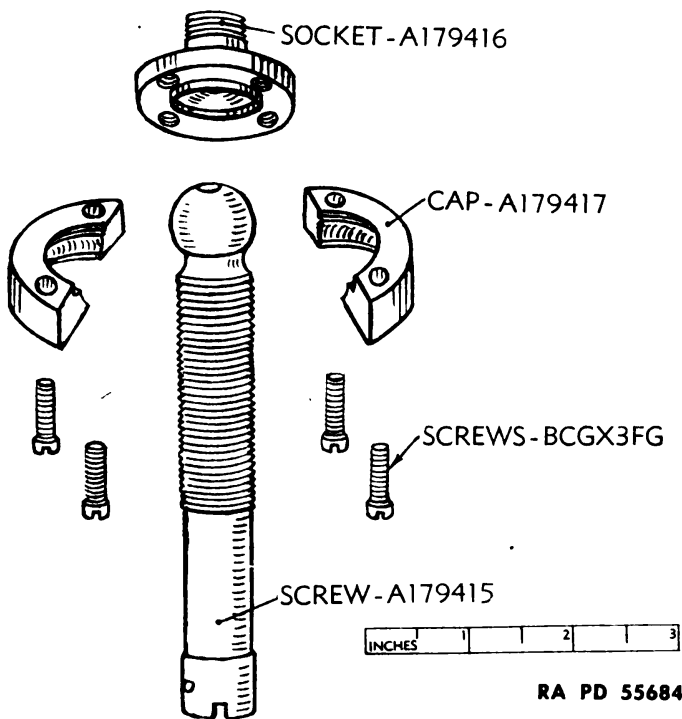

Figure 26—Elevation Screw, Cap, and Socket Assembly—Exploded View
d. Elevation Screw Socket and Cap Removal. Remove the four screws BCGX3FG from cap A179417 (fig. 26), and remove elevation screw socket and cap from head of elevation screw A179415.